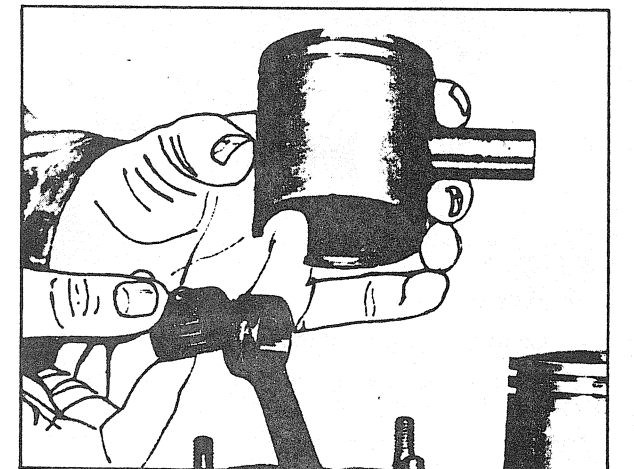

FIGURE 20
- Once the wrist pin is disengaged from the connecting rod, lift and remove piston (fig. 20).